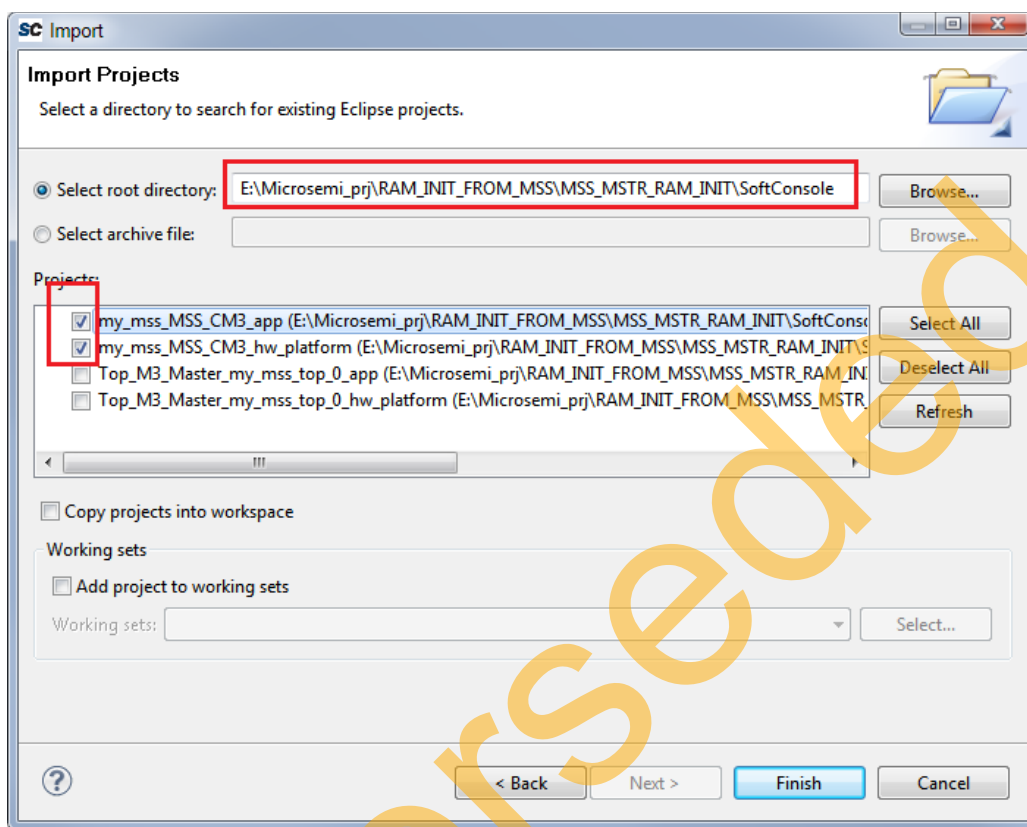

Figure 13 • Import and Select the Existing Projects
7. Browse to the root directory where the SoftConsole folder is created as shown in Figure 13. The application and hardware platform check boxes (my_mss_MSS_CM3_app and the my_mss_MSS_CM3_hw_platform) are automatically detected and selected under **Projects**.